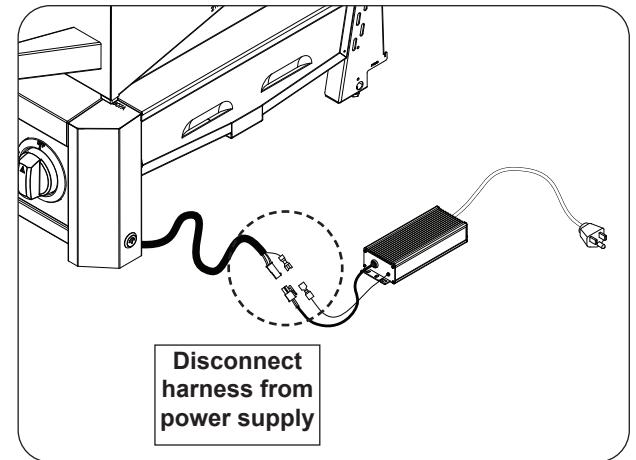

Fig. 27-2 Disconnect harness
- L-Series grills: Locate the power supply, disconnect the harness extension from the power supply, and set the power supply aside. See Fig. 27-2.